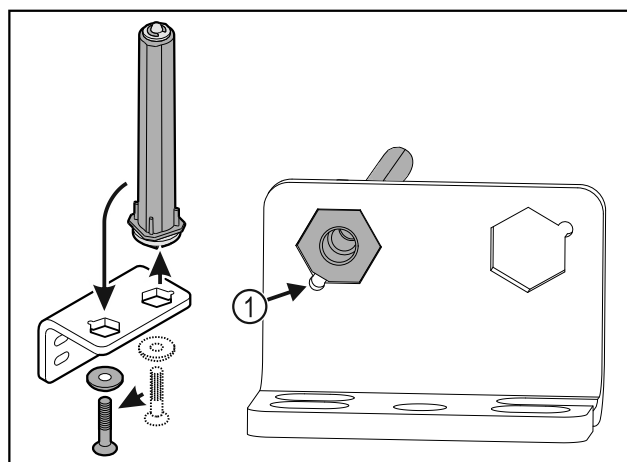

Fig. 37
- ▶ Make sure the pin chamfer Fig. 37 (1) faces the round hole when you put it in.